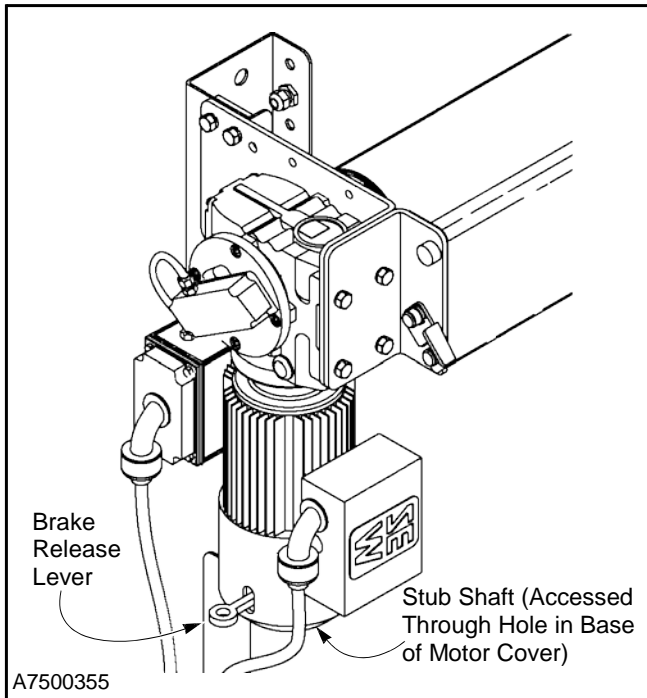

Figure 8
1. Partially pull down and hold the brake release lever to disengage the electric brake. Allow the door to close smoothly and slowly to the desired height. (See Figure 8.)
1. Place the crank handle on the stub shaft. The stub shaft is accessed through the base of the motor cover. (See Figure 8.)
To operate a manually assisted egress door, first pull the brake release rope on either side of the door. (See Figure 8.)